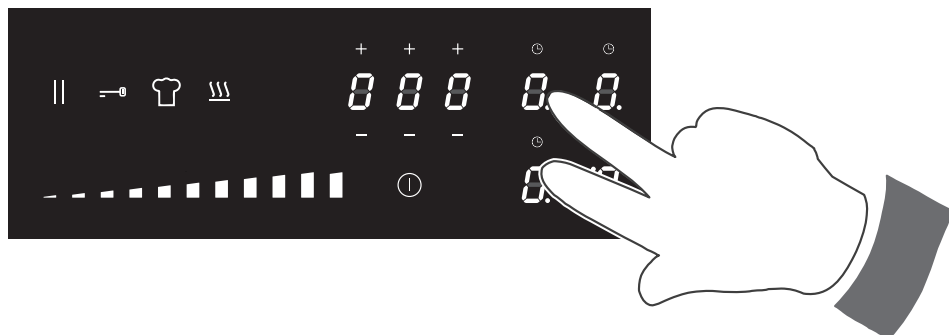

Fig. 2.4
- Select both of the two zones by finger pressure (fig. 2.4).